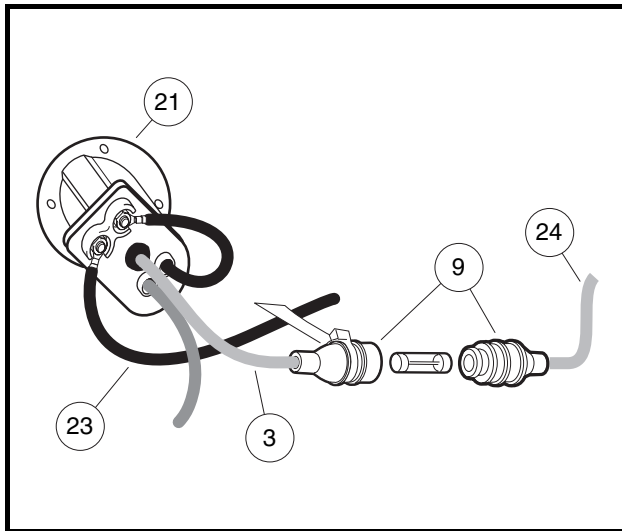

Figure 12-10 Charger Receptacle Wiring
2. Disconnect 10-gauge black wire (23) from the back of charger receptacle (21) (**Figure 12-10, Page 12-11**).
3. Disconnect the gray wire (from OBC) at the fuse housing (9), leaving the sense lead fuse inserted into housing on the gray lead (3) from the charger receptacle (**Figure 12-10, Page 12-11**).